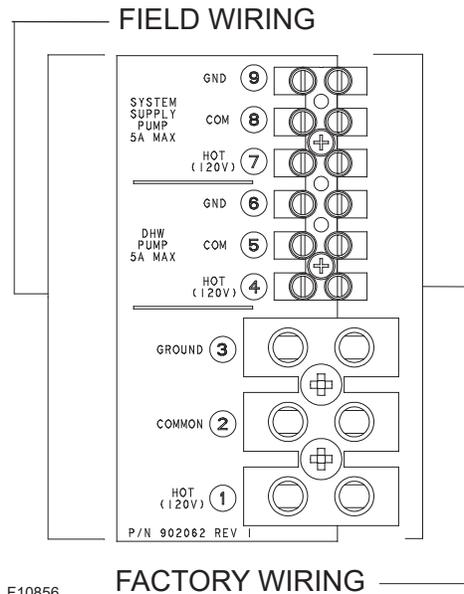
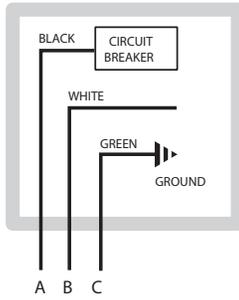
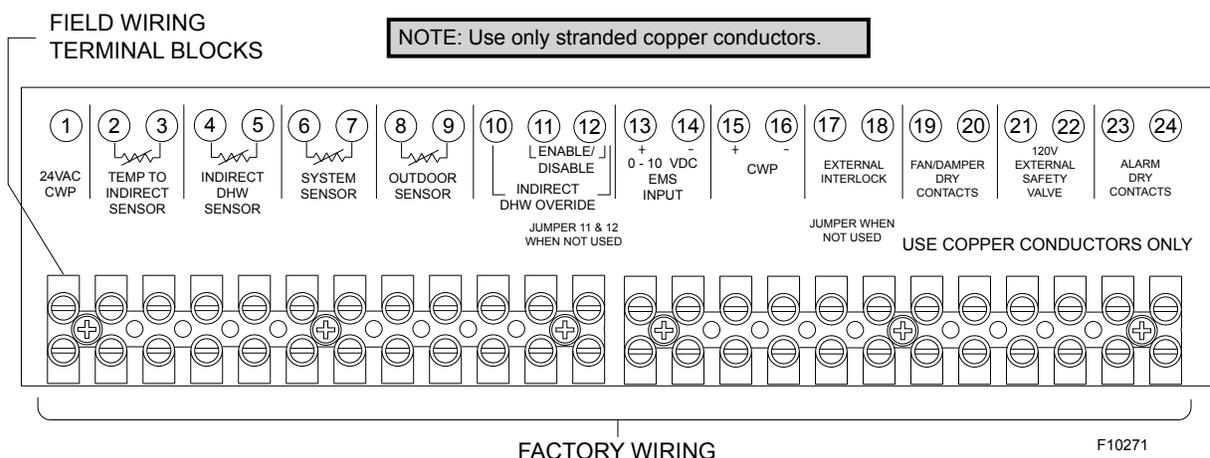

Figure 20. Wiring Electrical Connections
Figure 21. Wiring Connections
Figure 24. Low Voltage Field Wiring
All high voltage wiring connections to the MVB heater are made inside the rear wiring box as shown in **Figure 20**. Power for indirect DHW pump not exceeding 5 amps should be taken from terminals 4 (Hot), 5 (Com), and 6 (Gnd). Power for system pump not exceeding 5 amps should be taken from terminals 7 (Hot), 8 (Com), and 9 (Gnd). Power for boiler pumps must be routed through the pump contactor; 30A supply is required. Power for pumps must be a separate circuit wired through the pump contactor. Power to the MVB heater should be connected to terminals 1, 2, and 3 as noted in **Figure 20**. All low voltage wiring, including sensors, interlocks, enable/disable, and various options are wired into terminals 1–24 on the front wiring panel as noted in **Figure 24**.
⚠ WARNING: Using a multi-meter, check the following voltages at the circuit breaker panel prior to connecting any equipment. Make sure proper polarity is followed and house ground is proven. (See Figure 21)
Refer to **Figure 20** and **Figure 21**.
Connect the Enable/Disable wiring to the field wiring terminal (shown in **Figure 24**). Alternately, any dry contact closure (including a remote thermostat) across these terminals will enable the MVB unit to run. Caution should be used to ensure neither of the terminals becomes connected to ground.
2. If using an Outdoor Sensor (option B-32), connect the sensor wires to the terminals marked OUTDOOR SENSOR (see **Figure 24**). Caution should be used to ensure neither of these terminals becomes connected to ground.
2. To enable this remote control function, set dip switch 5 to the UP position on the PIM. Dip switch 5 Toggles between an EMS (UP) signal or a demand signal from the VERSA (DOWN). Dip switch 2 on the PIM toggles between a Direct Drive (UP) input and a Target Temperature (DOWN) setpoint.
4. Connect an Energy Management system or other auxiliary control signal to the terminals marked 0-10V (+ /-) on the field wiring terminals (see **Figure 24**). Caution should be used to ensure that the +0-10V connection does not create a short to ground.
3. Connect the system supply sensor to terminals 6 and 7 on the field wiring strip located on the Master PIM (See **Figure 24**).
4. Connect the Outdoor sensor (if used) to terminals 8 and 9 on the field wiring strip located on the Master boiler (See **Figure 24**).
5. Connect the Enable/Disable wiring to terminals 11 and 12 on the field wiring strip located on the Master boiler (See **Figure 24**). This connection must be provided through dry contacts closure.
An alarm annunciator or light may be connected to the alarm contacts on the field wiring terminals. The Alarm Contacts are 3A rated dry contacts on a normally-open relay that close during fault or lockout conditions, and the maximum voltage across the contacts is 30 VAC or 30 VDC. See the Field Wiring as shown in **Figure 24**.